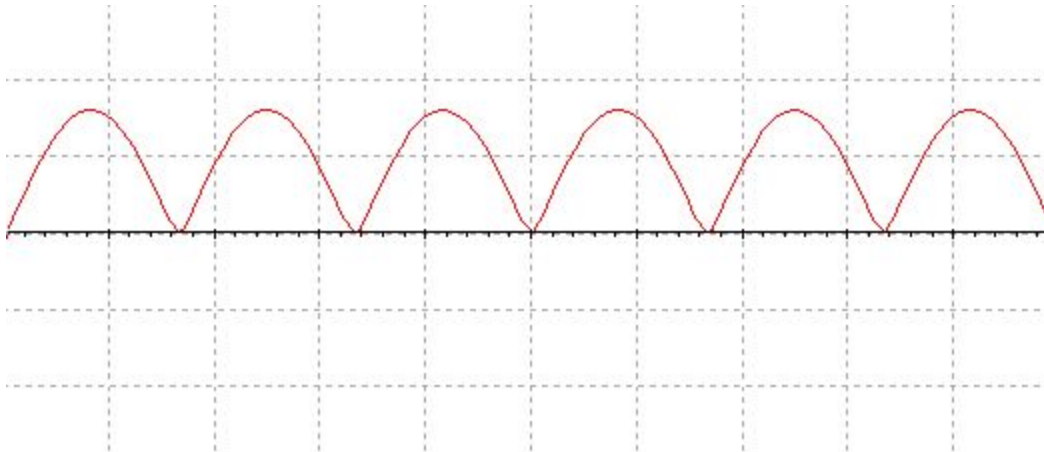

Figure 1-4
5. Measure the voltage across the bridge rectifier. Figure 1-4 shows a dc voltage wave and table 1-1 shows what we measured across the output of the transformer with 10 volts per division and 5 ms per division.